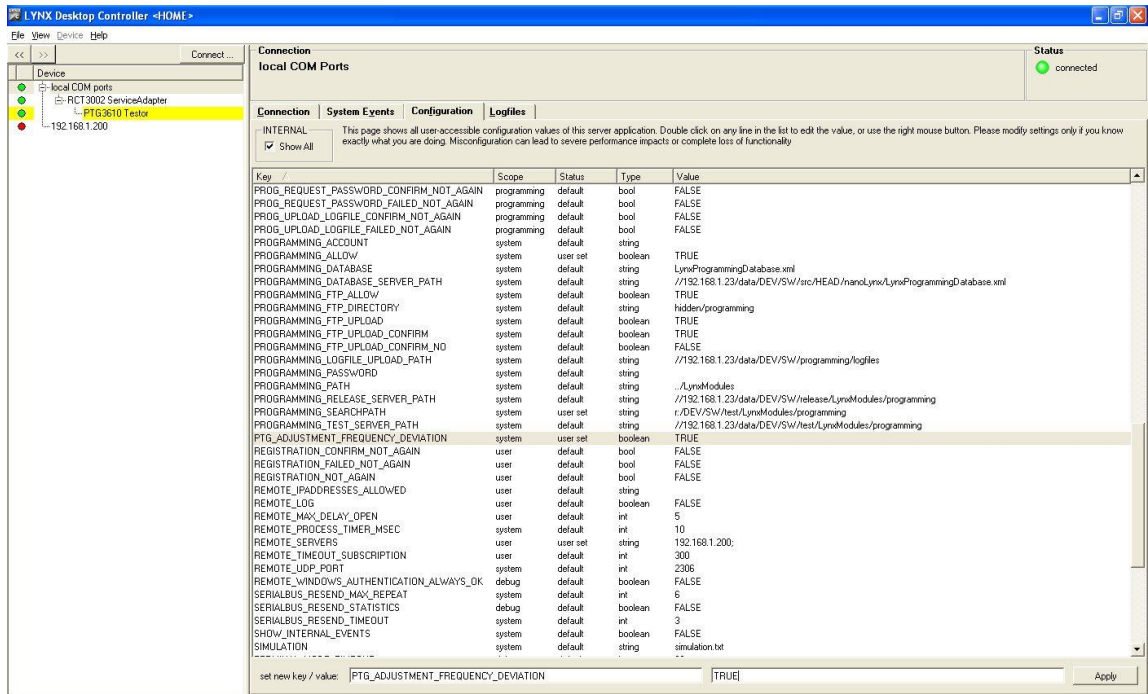

Fig. 2
- select "configuration" tab in the setup area (Fig. 2)